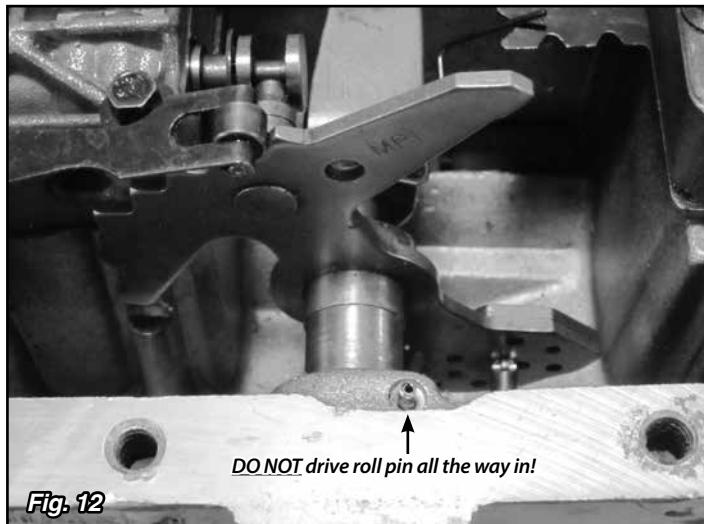

Fig. 12
Step 11: Reinstall the 1/8" roll pin. It will align with the groove in the Selector Shaft. **DO NOT DRIVE THE ROLL PIN ALL THE WAY IN FLUSH WITH THE CASE!** It is important that the roll pin is sticking out beyond the casting so it can be removed if needed at another time. **Fig. 12**